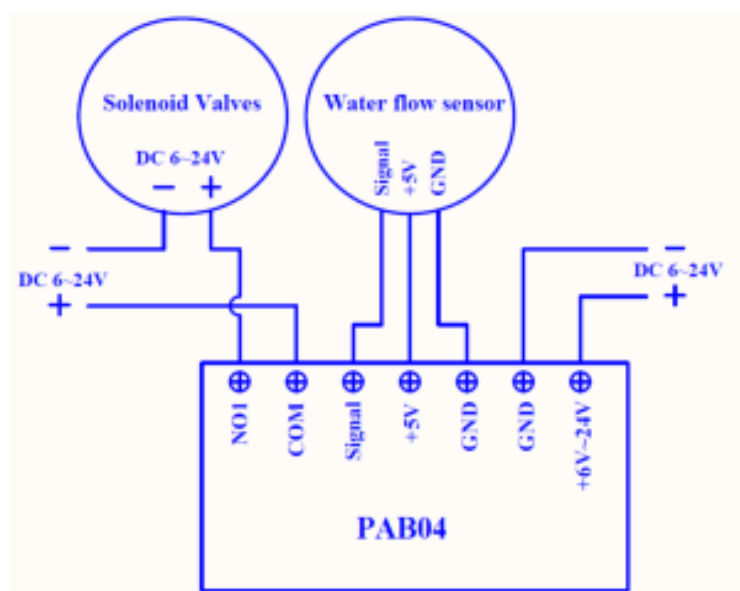

Fig 1. PAB04 Assembling & Wiring
1. If the connected valve is used the same power, DC 6V~24V, with PAB04. Please refer to Fig1. 2. Or if the connected valve is used the AC power 120V or 220V.